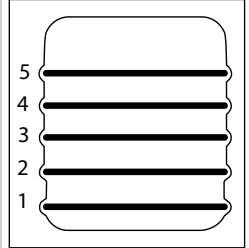

**Fig. 4.1**
- The telescopic racks with runners can be utilized on levels 2, 3, 4 and 5. It is not possible to utilize the rack on level 1 (**Fig. 4.1**).